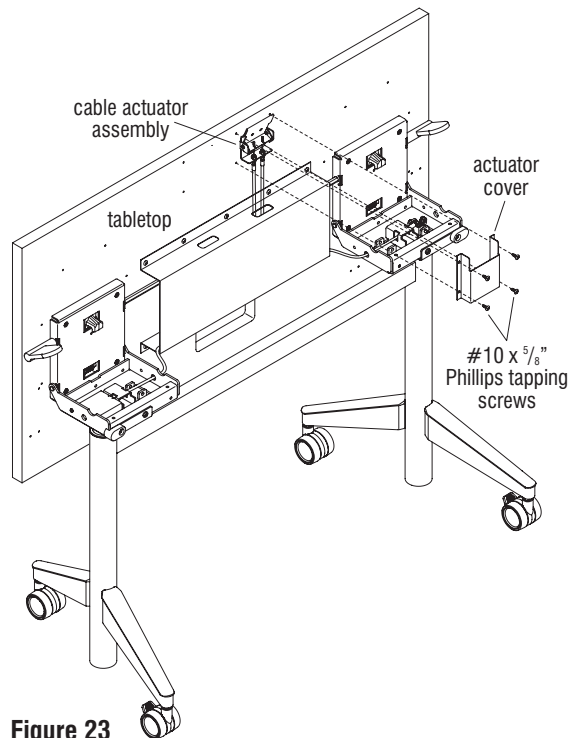

Figure 23
54. At the underside of the tabletop, position the actuator cover above the cable actuator assembly. Secure the cover to the tabletop using four #10 x 5/8" Phillips tapping screws (Figure 23).